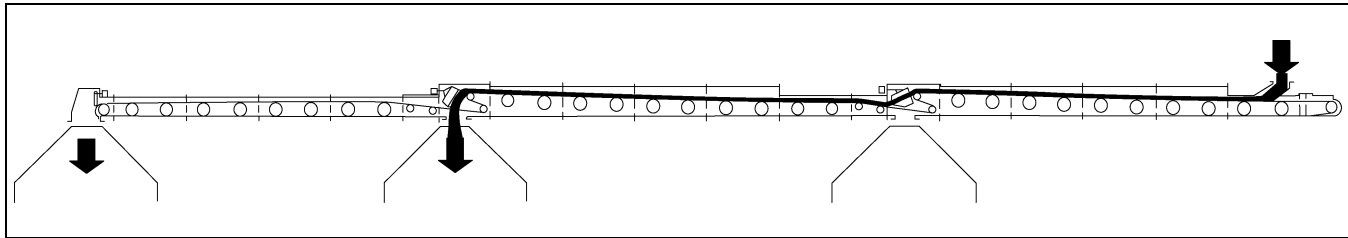

Figure 4Z Tripper Layout
Another form of intermediate discharge Intersystems offers is a tripper. The tripper is designed to allow for material offload at a given point along the conveyor. Figure 4Z shows the material profile and belt layout for a conveyor with two (2) trippers. In this example, the first tripper is set so the material bypasses the first intermediate discharge location. The material then exits the belt at the second intermediate discharge location. If desired, the second tripper setup could be set to the flow-thru mode as the first tripper is, and the material would then travel all the way to the end of the conveyor, discharging at the head.